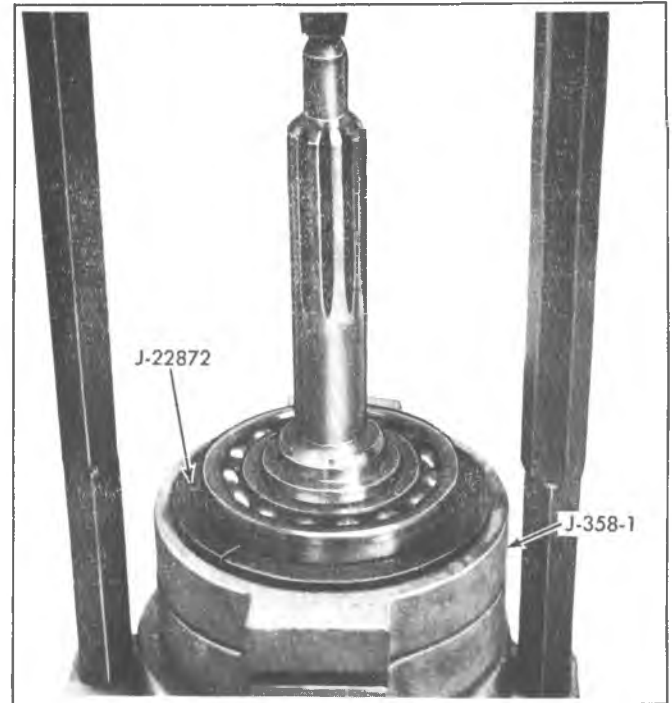

Fig. 7B-10L—Removing Drive Gear Bearing
4. Using Tool J-22873 press 1st speed gear bushing onto mainshaft until it bottoms against hub (Fig. 7B-17L). Lubricate all bushings with E.P. oil before installation of gears.